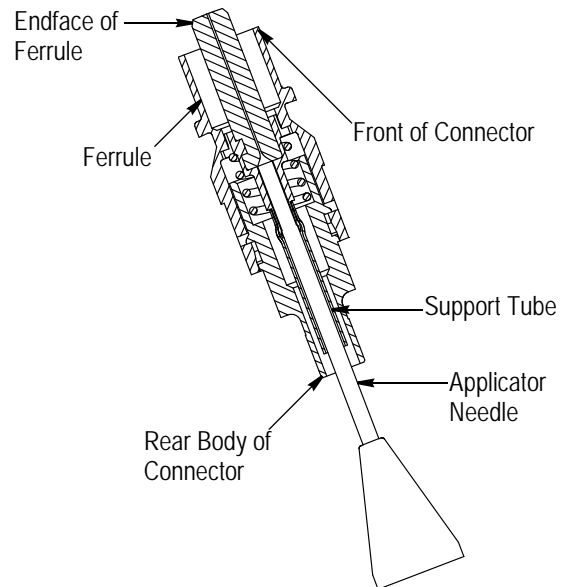

Figure 5
2. Hold the connector subassembly in an upright position. Insert the needle tip into the rear body and support tube until the needle tip touches the bottom of the ferrule. See Figure 5.